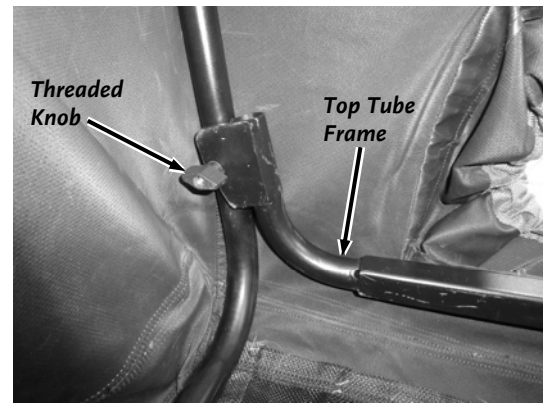

Figure 86
5. Remove the Knobs from the Top Tube Frame and pull off the Top Tube Frame (**Figure 86**). Reinstall the Knobs so they are not lost.